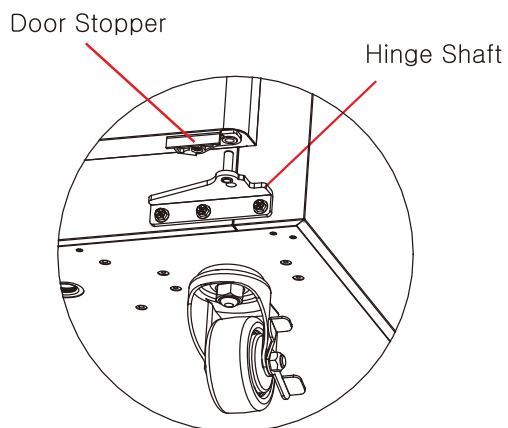

Fig 9-26
8. While lifting the door up, completely detach the door from the lower hinge shaft. (Fig 9-26)